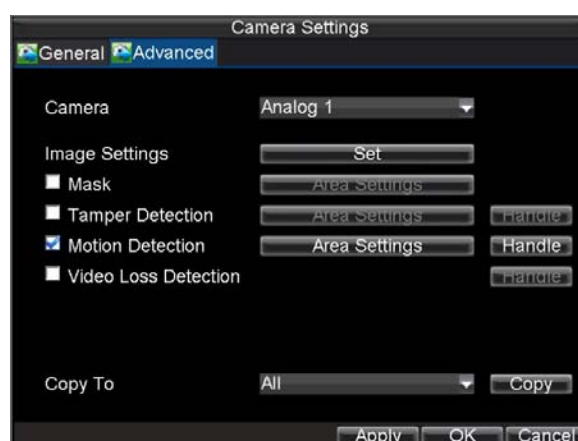

Figure 2. Advanced Camera Settings
2. Select the **Advanced** tab to open up the Advanced Camera Settings menu, shown in Figure 2.